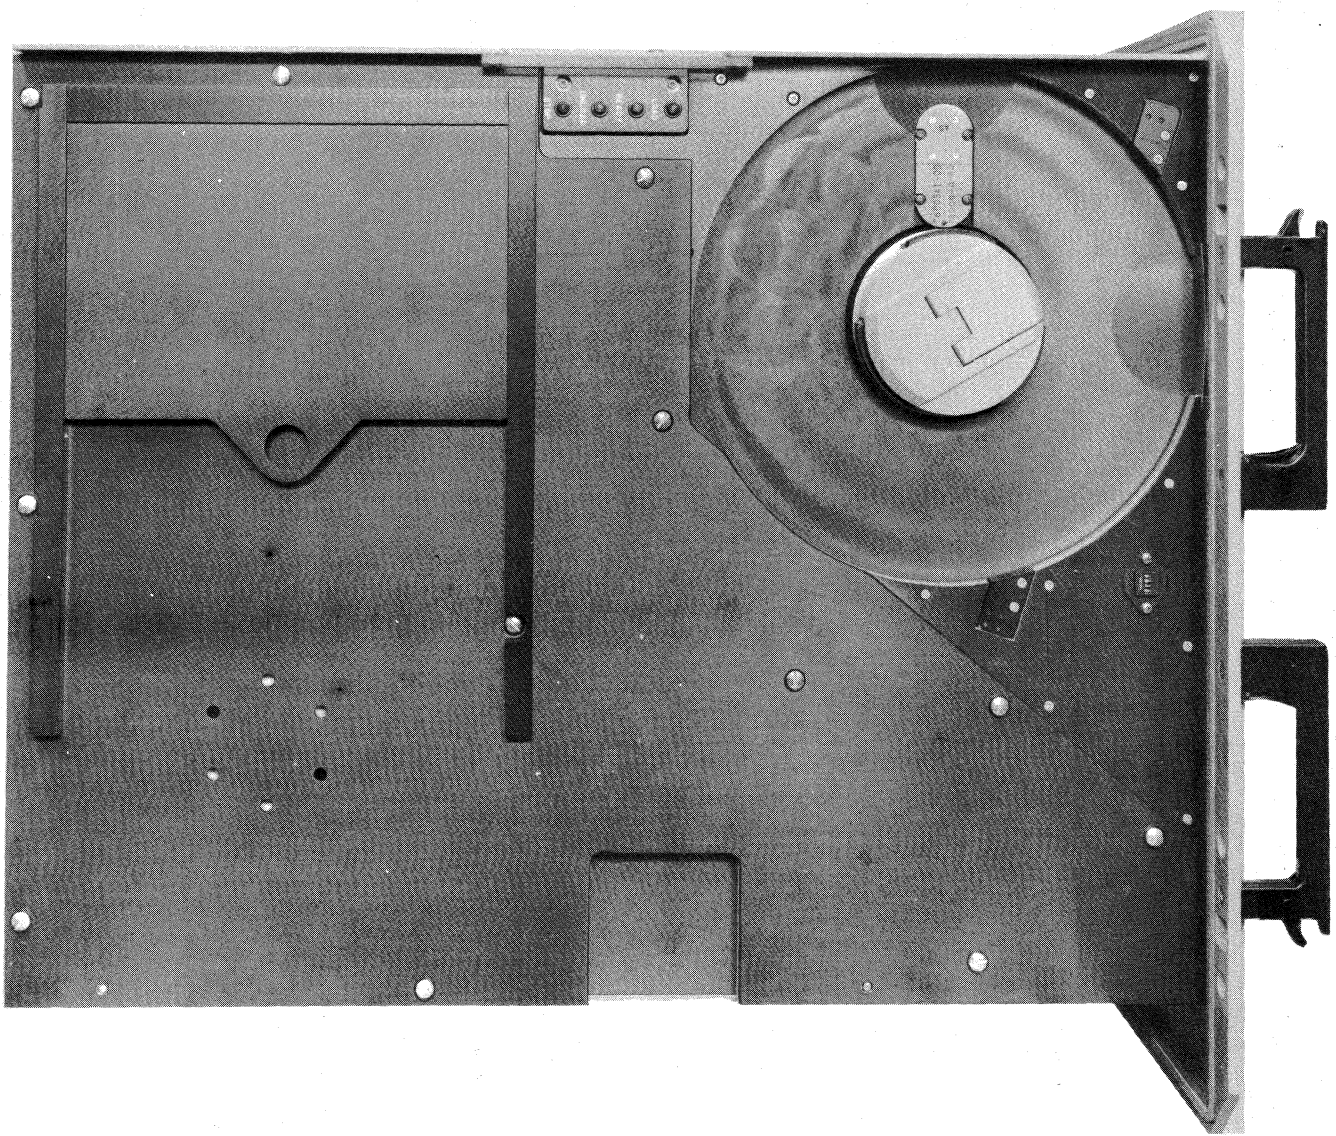

Figure 5-1. MTT, Front View
STEP 5. Open head access cover (figure 5-1) and remove plastic protective cover.
STEP 2. Open head access cover (figure 5-1) and turn to release the 1/4-turn fastener.
(1) REMOVAL. - To remove the power supply from the cabinet, perform the following steps.